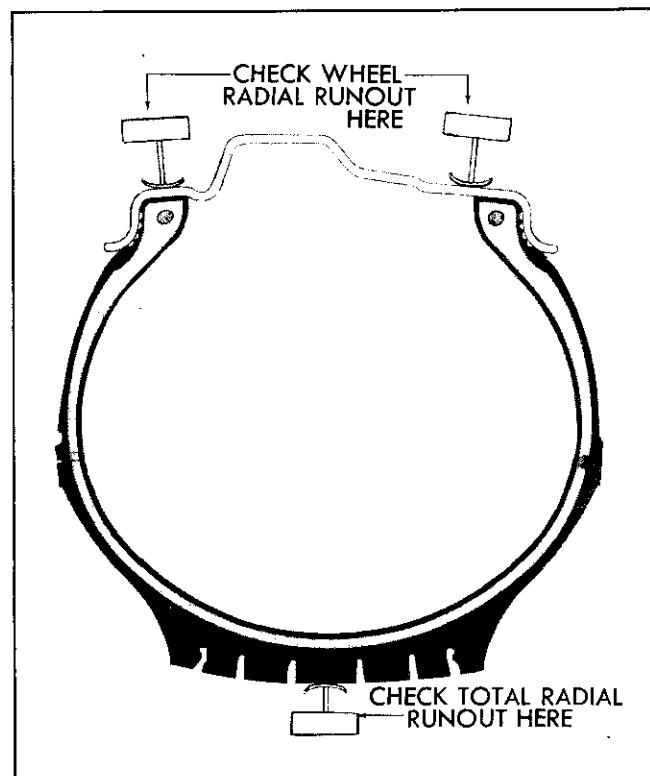

Fig. 10-2 Radial Runout Inspection
3. Attach a dial indicator to the car body or stationary support. With indicator against tire (Fig. 10-2), slowly rotate wheel and check for total radial run-out of wheel and tire. Maximum allowable total radial run-out is .092". If total radial run-out exceeds .092" then re-index tire to wheel as noted below and recheck run-out of assembly. If still over .092" check radial run-out of wheel only.